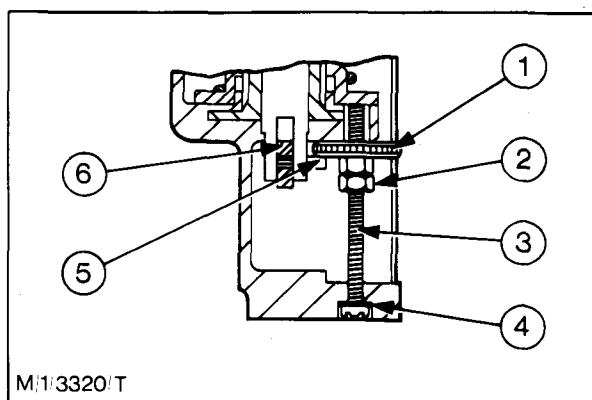

Fig. 59 - Zero Boost Fuel Adjusting Wheel Installed
14. Fit a new washer and insert the crosshead screw through the hole in the bottom of the housing and screw the locknut and zero boost fuel adjusting wheel onto it (Fig. 59).